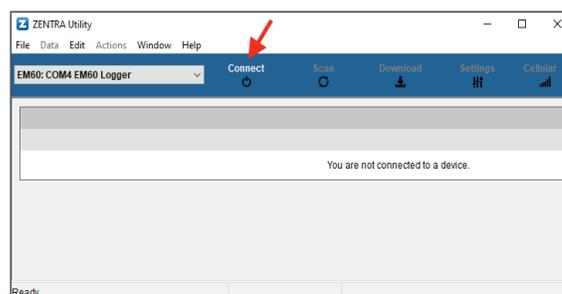

Figure 18 Connect to ZL6 or EM60
3. Open ZENTRA Utility and click on Connect to connect to the ZL6 or EM60 data logger (Figure 18).
4. Select the correct logger from the COM dropdown (Figure 18).
5. On the Menu bar (Figure 18), select **Actions > Digital Sensor Terminal**.